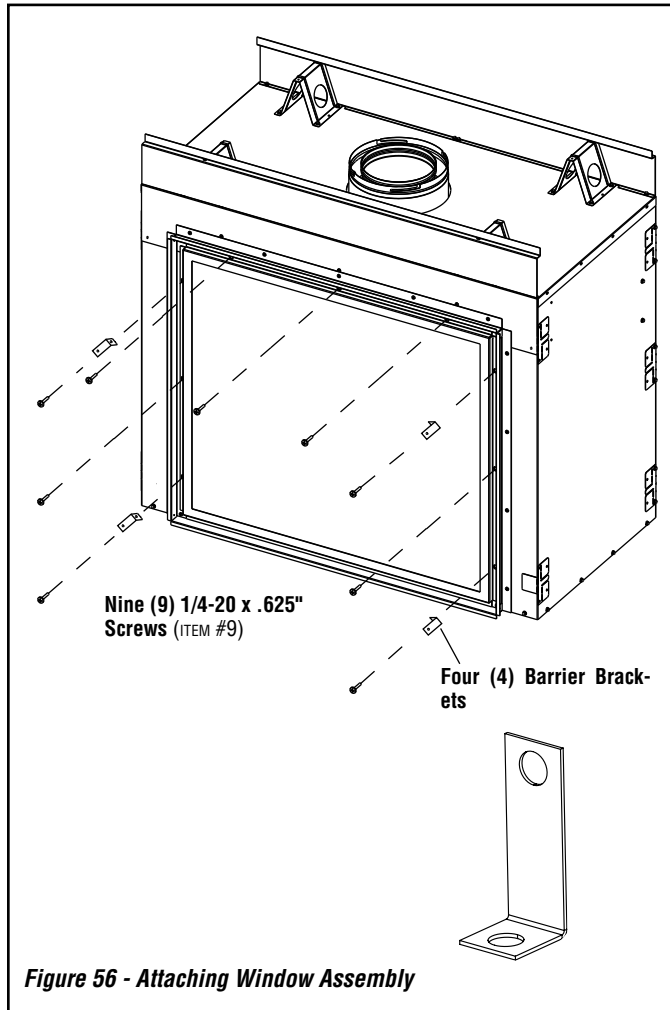

Figure 56 - Attaching Window Assembly
7. Seat the lower edge of the **Window Assembly** (ITEM #1) in the **Track** in the **Window Support** (see **Figure 55**), and then swing it up into position, as shown in **Figure 56**.
8. Insert the nine (9) provided **1/4-20 x .625" Screws** (ITEM #9) around three sides of the **Window Assembly**, as shown in **Figure 56**. Install **4 Barrier Brackets** under screws as shown in **Figure 56**.